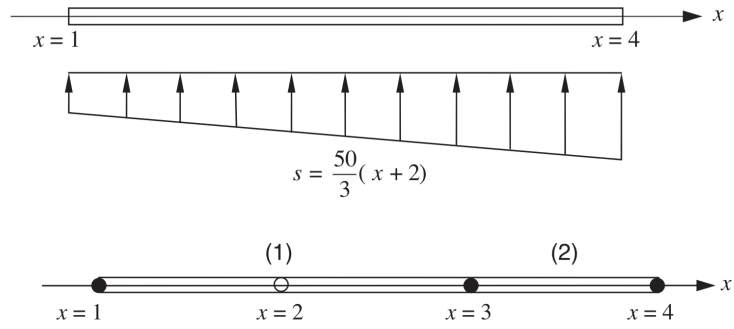

Figure 1: Heat conduction problem and its finite element mesh below.
1. Consider a heat conduction problem shown in Figure 1. The dimensions are in meters. The bar has a constant unit cross section, constant thermal conductivity $k = 5 \text{ W}^\circ\text{C}^{-1}\text{m}^{-1}$ and a linear heat source s as shown in Figure 1. The boundary conditions are $T(x = 1) = 100^\circ\text{C}$ and $T(x = 4) = 0^\circ\text{C}$. Divide the bar into two elements ($n_{el} = 2$) as shown in the Figure. Note that element 1 is a three-node (quadratic) element ($n_{en} = 3$), whereas element 2 is a two-node ($n_{en} = 2$) element.